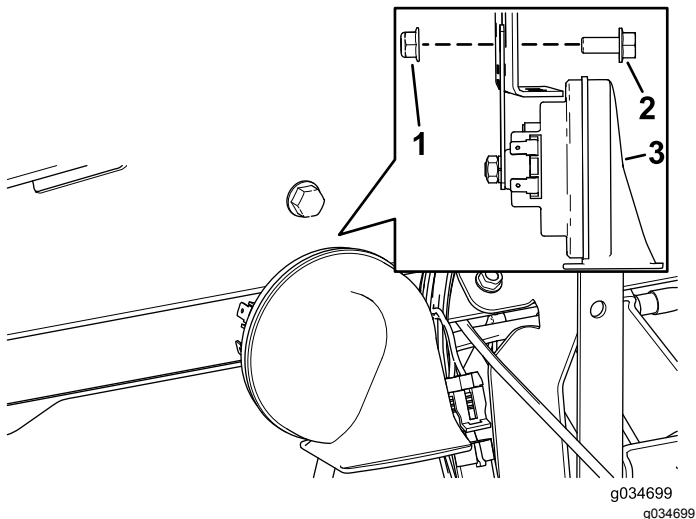

Figure 3
2. Install the 48 V horn assembly to the existing hole in the dash bracket with the hex-head screw (5/16 x 3/4 inch) and flange nut (5/16 inch) as shown in Figure 3.
Note: The bracket on the horn assembly and the flange nut (5/16 inch) are located on the inside of the dash bracket (Figure 3).